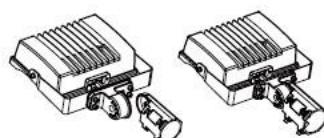

Figure 3.1
3. Loosen the fixtures' hexagonal screw (Figure 3.1) and position the fixture before tightening again.